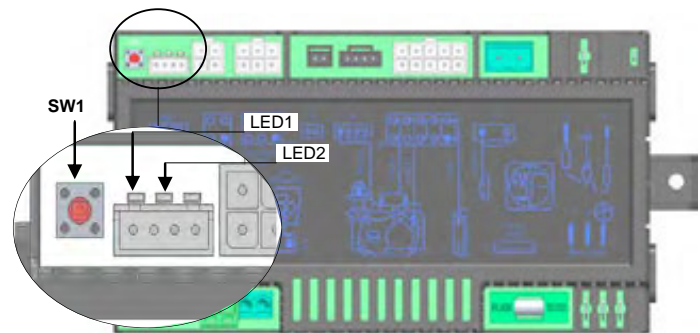
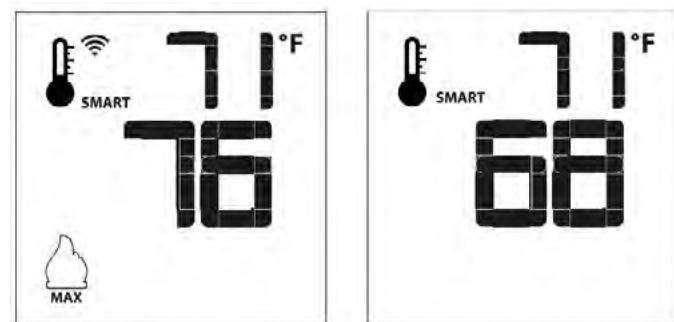
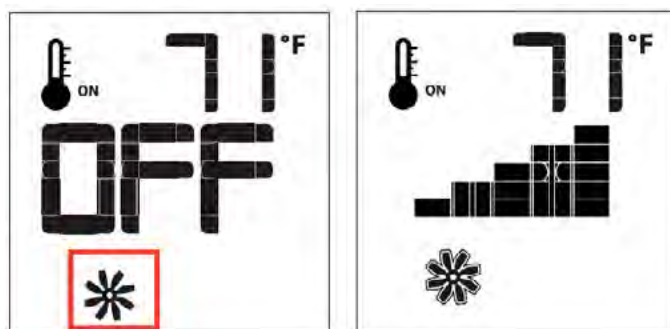
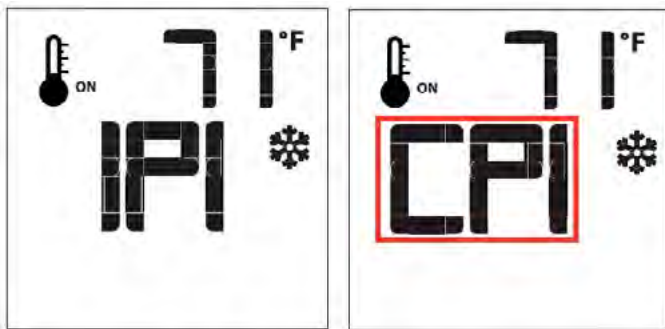

Figure 27.
Figure 27i. Smart flame function
Figure 27l. Fan Speed Control
Figure 27n. Continuous Pilot / Intermittent Pilot Selection
The Proflame 2 Transmitter uses a streamlined design with a simple button layout and informative LCD display. A Mode Key is provided to index between the features and a Thermostat Key is used to turn On/Off or index through Thermostat functions, see Figure 27. Additionally, a Key Lock feature is provided.
The Smart Thermostat function adjusts the flame height in accordance to the difference between the set point temperature and the actual room temperatures. As the room temperature gets closer to the set point the Smart Function will modulate the flame down. To activate the function, press the Thermostat Key, see Figure 27, until the word "SMART" appears to the right of the temperature bulb graphic, see Figure 27i.
If the fireplace is equipped with optional hot air circulating fans, The speed of the fans can be controlled by the Proflame system. The fan speed can be adjusted through six (6) speeds. To activate this function use the Mode Key, see Figure 27, to index to the fan control icon, see Figure 27l. Use the Up/Down Arrow Keys to turn on, off, or adjust the fan speed. A single "beep" will confirm reception of the command.
With the system in "off" position press the Mode Key, see Figure 27, to index to the CPI mode icon, see Figure 27n. Pressing the Up Arrow Key will activate the Continuous Pilot Ignition mode (CPI). Pressing the Down Arrow Key will return to IPI. A single "beep" will confirm the reception of the command.